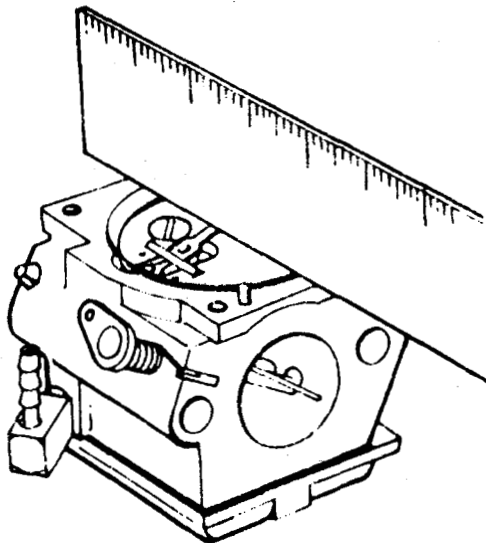

FIGURE 8
① Diaphragm metering lever: (See Figure 8.) This lever is to be adjusted flush with the outer rim of the carburetor body casting. The lever is spring loaded. Be extremely careful not to stretch or distort this spring during disassembly and reassembly. Be certain that the lever return spring is seated in the recess in the carburetor body.